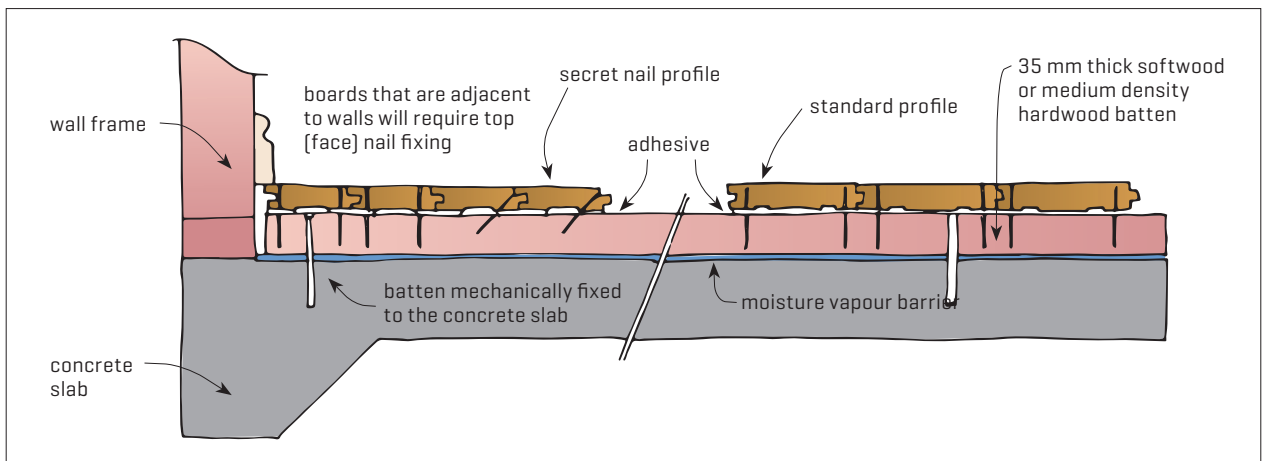

Figure 4. Face nailing and secret fixing to battens over concrete slabs.
- Use one nail fixed 10–15 mm from the tongue edge of the board at each batten for boards 75 mm or narrower and two nails per board for boards wider than 75 mm (Figure 4).
- Skew nail the board through the top of the tongue once it is tightly fitted (Figure 4).